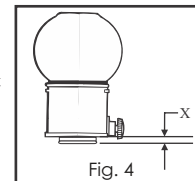
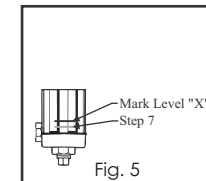
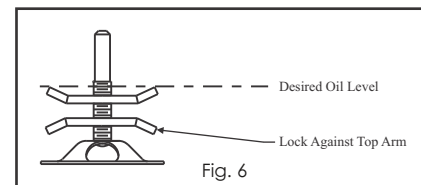

Fig. 4
Fig. 5
Fig. 6
8. Measure the distance between Opto-Matic Oiler bottle and casting edge (Fig 4). Mark this distance above the original line made in step 7 on the outside of the Opto-Matic lower casting (Fig. 5). Now the bottom of the upper casting can be used as an indicator of oil level.
9. Set oil level adjuster (**Opto Laser Level Tool** can be used). Thread top adjuster arm to desired level (Fig 6). Place inside lower casting. Place reservoir assembly over lower casting. Verify the bottom of the lower casting is at the oil level mark on the outside of the lower casting made in step 8 (Fig 5). You may need to adjust the upper arm on the oil level adjuster assembly to obtain the correct oil level.
10. Once the correct oil level is obtained, lock the lower level adjuster arm against the top arm (Fig 6). Place level adjuster assembly in lower casting.